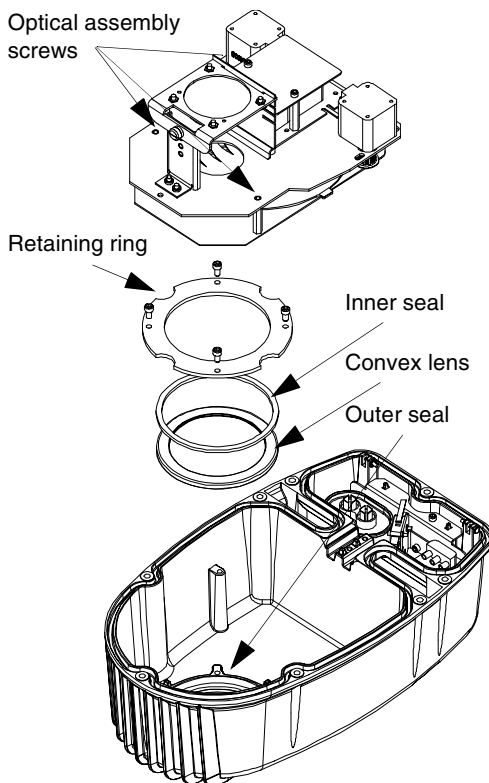

Figure 1-8 Convex lens assembly
2. Use the 10/24in. allen wrench to loosen the three socket screws which hold the optical assembly into the front housing as shown in Figure 1-8. Lift optical module up to expose the front lens retaining ring.